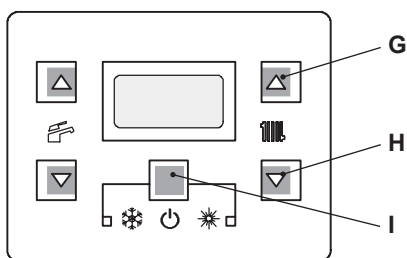
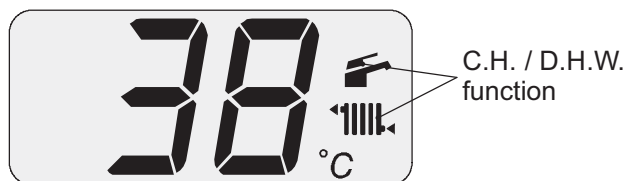

Figure 11.5
Figure 11.10
- 16 To enter in the parameters setting mode press sequentially and hold in the 3 keys (G - H - I Figure 11.5) for 10 second until the display shows Figure 11.6.
- 17 Press keys G and H (Figure 11.5) at the same time until the display shows the letters **LP** that alternate with the heating water temperature value (e.g. 45), indicating the activation of the "chimney sweep function" at minimum output (Figure 11.7).
- 24 Press keys G - H - I (Figure 11.5) at the same time again to exit the "chimney sweep mode" and return to the previously set boiler status (Figure 11.10)